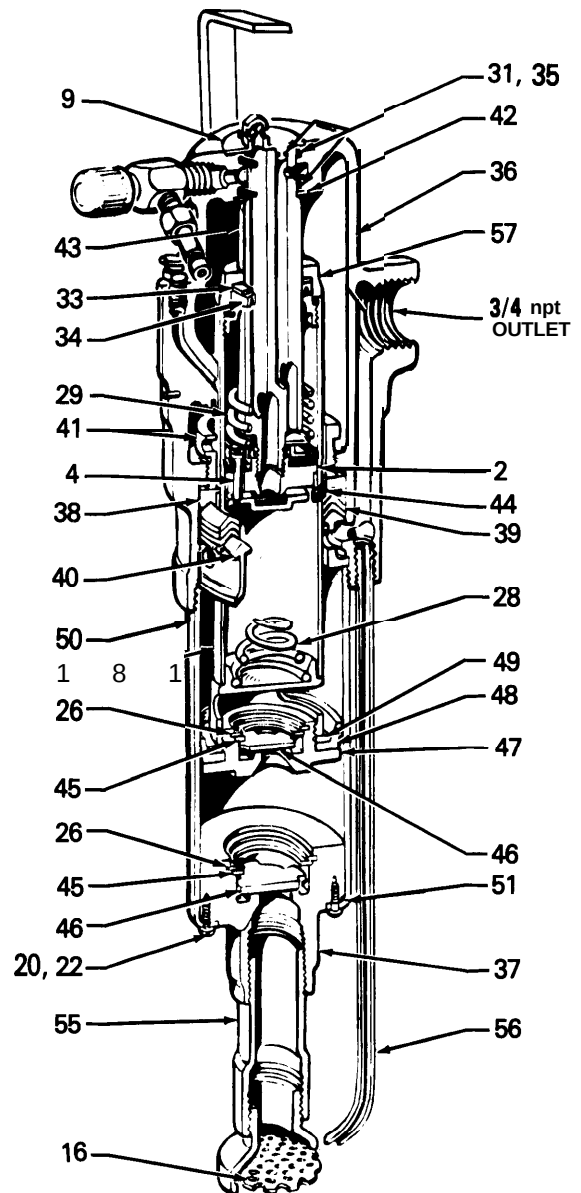

Fig 4
2. Clamp the pump head (**36**) in a vise. Unscrew the bypass tube (**56**). Unscrew the fluid intake strainer assembly (**15**) and the extension tube (**55**) (if used) from the intake housing (**37**). Remove the screen (**16**) from the strainer housing (**17**) and clean. See Fig 4.